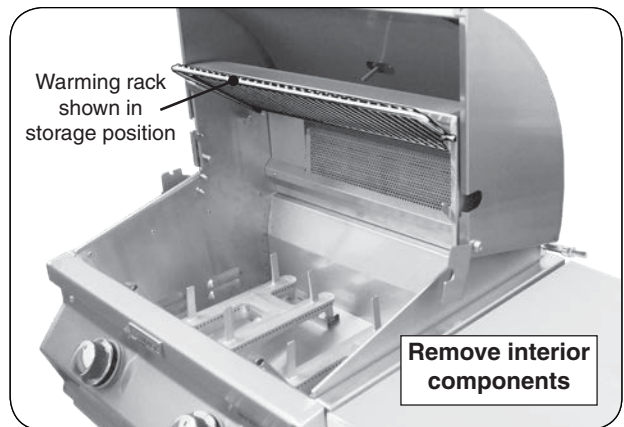

Fig. 27-1 Prepare grill for rotissing
1. Set the warming rack to storage position, remove the backburner cover and cooking grids (see Fig. 27-1).